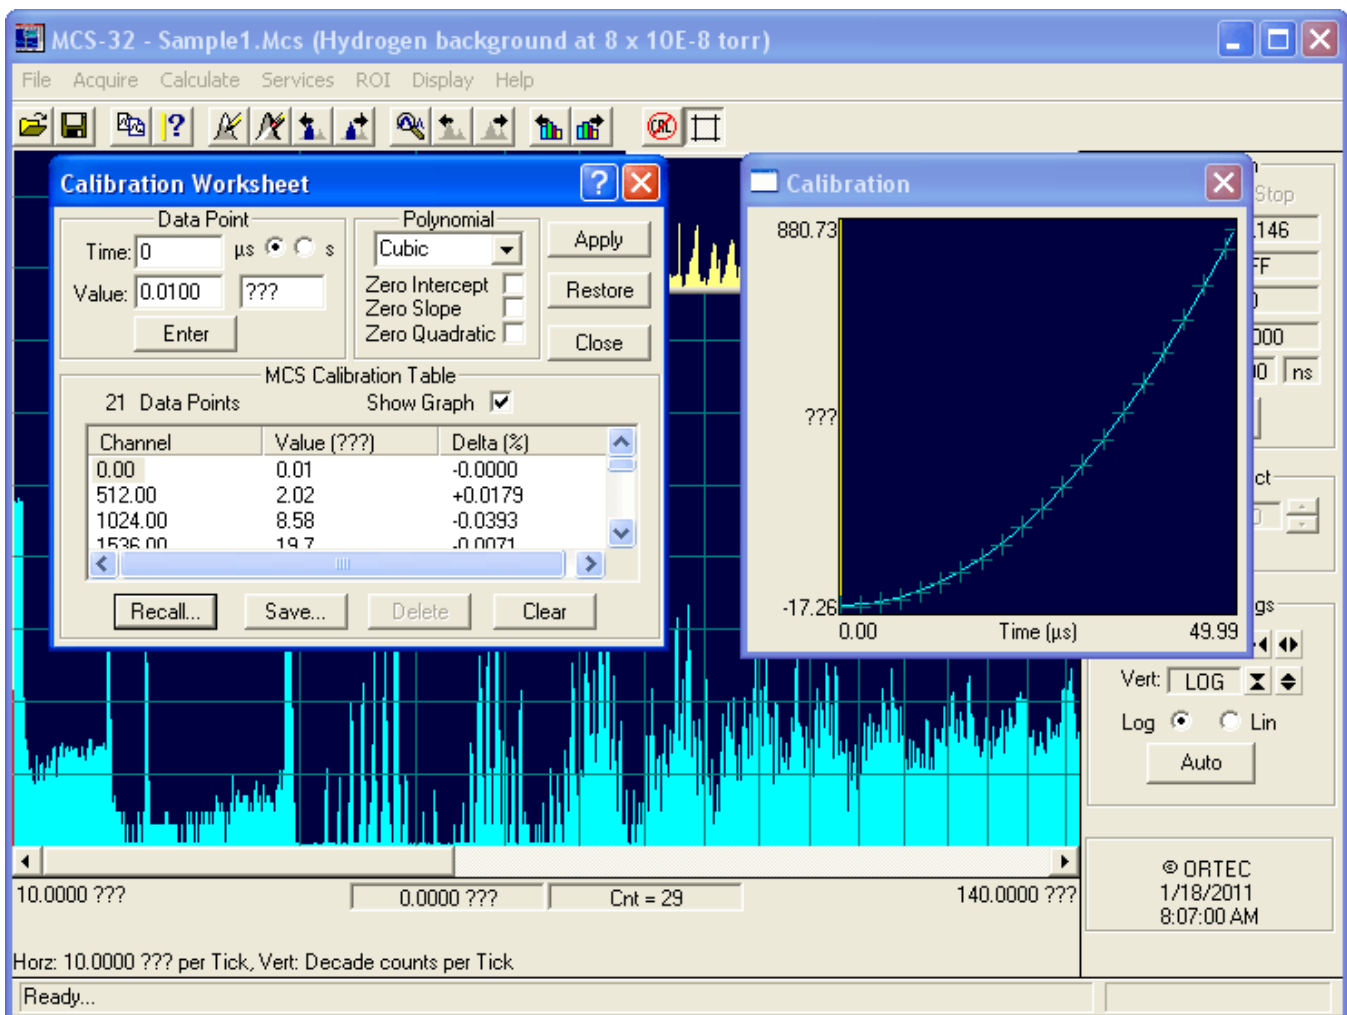

Fig. 44. The Calibration Worksheet and Graph.
- 1) Select **Calibration...** This will open the **Calibration Worksheet** dialog shown in Fig. 44. This dialog provides a place for entering up to 64 time or channel values, and the calibration values that correspond to the times or channels. By default, time values are entered when the dwell is internal. For external dwell, you must enter channel numbers. The Marker Information Line is updated to display the marker position and display limits in the selected time units when the calibration dialog is displayed.